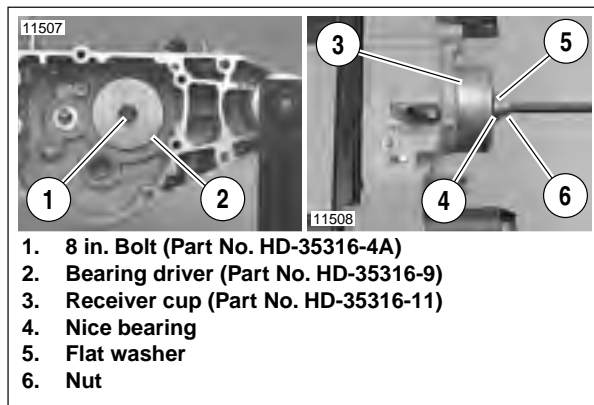

Figure 6-70. Removing Main Drive Gear Bearing (Typical)
4. See Figure 6-70. At outside of case, slide RECEIVER CUP (Part No. HD-35316-11) (3) onto bolt and over bearing. Install NICE BEARING (4), FLAT WASHER (5) and NUT (6) over end of bolt.